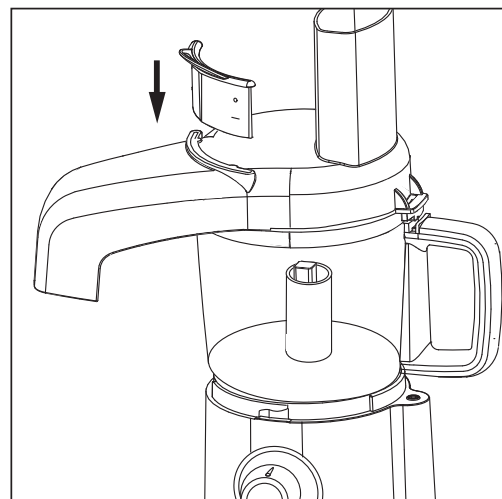

Figure 4
**NOTE:** Make sure the Flow Insert is pushed down so food will remain in the bowl. (See Figure 4).